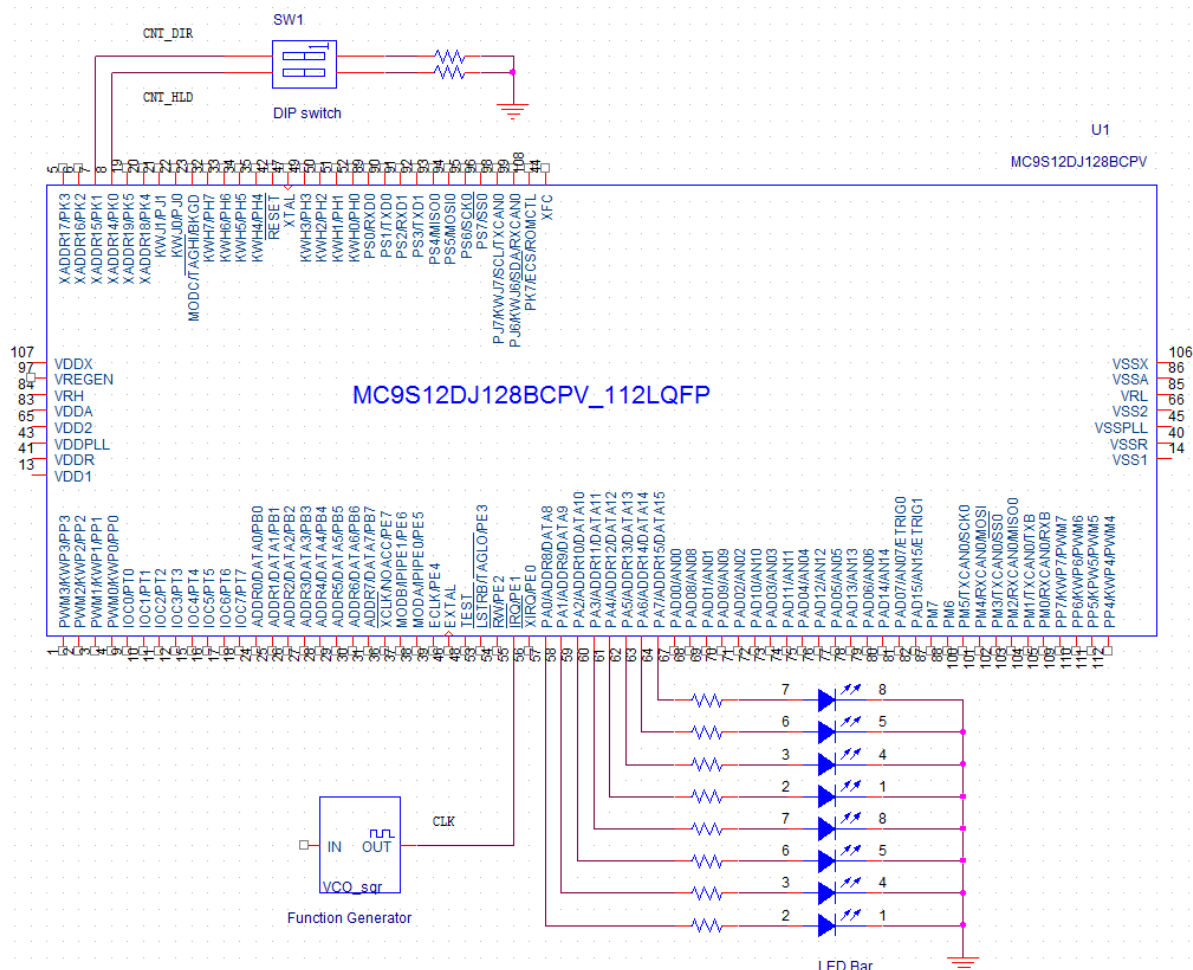

Figure 2. Interrupt Handling Circuit Schematic
1. Create a new schematic project in **Cadence Capture CIS**. We will draw the schematic shown in Figure 2.
2. Click the **Place part (P)** icon or click on **Place > Part** from the top menu bar.
7. Click the **Place ground (P)** icon or click on **Place>Ground** from the top menu bar. Type **GND** and double click the correct part from the list to place the part on your schematic page.
8. Wire all the parts as is shown in Figure 2.